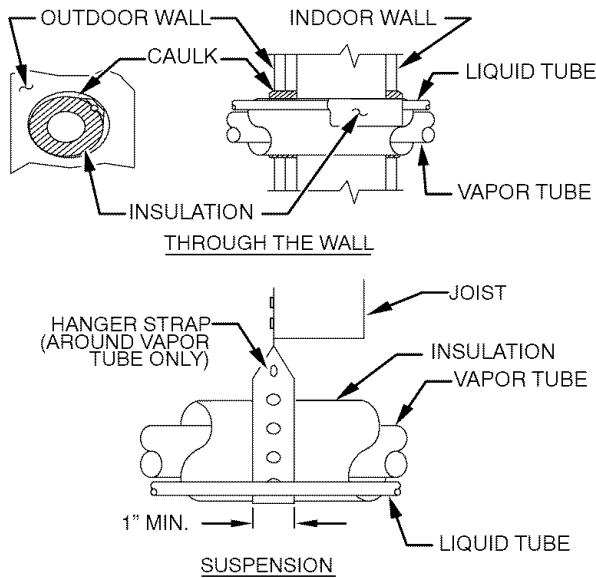

Fig. 2 – Connecting Tube Installation
5. When passing refrigerant tubes through the wall, seal opening with RTV or other pliable silicon-based caulk. (See Fig. 2.)
7. Do not suspend refrigerant tubing from joists and studs with a rigid wire or strap which comes in direct contact with tubing. (See Fig. 2.)
9. When necessary, use hanger straps which are 1 in. wide and conform to shape of tubing insulation. (See Fig. 2.)